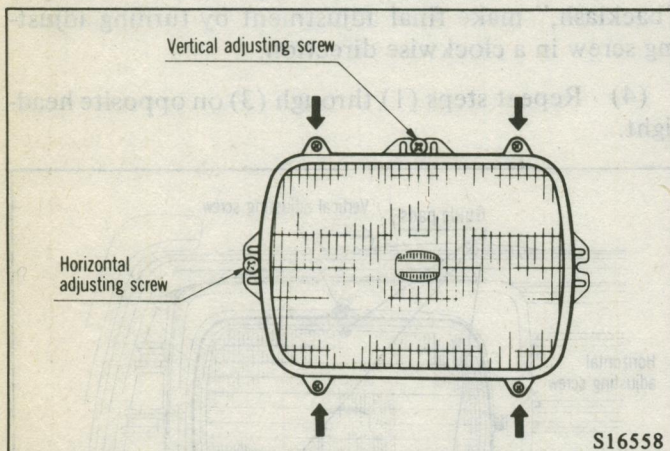

Fig. 125 Attaching Points of Headlight
(1) Remove screws from radiator grille and remove the grille.
(2) Remove screws from interior retaining ring, and remove ring. Do not disturb headlight adjusting screws. (Fig. 125)
(3) Pull out sealed beam unit and unplug connector, pulling straight off.
(4) Install new sealed beam unit.
(5) Install unit retaining ring.
(6) Aim the headlight and install headlight bezel.